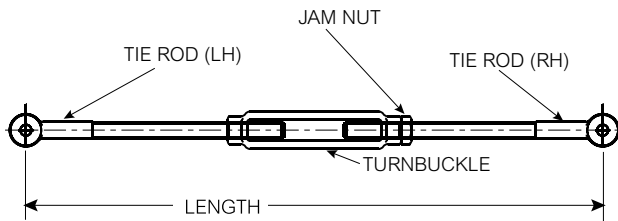

Figure 9 — Torque Arm Kit
- 3.0 Verify the torque arm kit has been assembled as shown in Figure 9.
10.0 After installation and alignment is complete, add Loctite 222 or equivalent to the Omnibox LS shaft 1/4-20 setscrews and tighten them to 7.5 lb-ft. Tighten the 5/8-11 (Grade 2) torque arm jam nut to 94 lb-ft (see Figure 9). Do not lubricate fasteners.